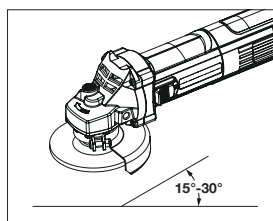

Fig5
- Screw the side handle securely on the position of the tool as shown in the figure 5.
- Generally speaking, please keep the grinding and cutting part of the wheel and disc in the scope of 15 to 30 degree with the surface of processing object.(Fig 5)